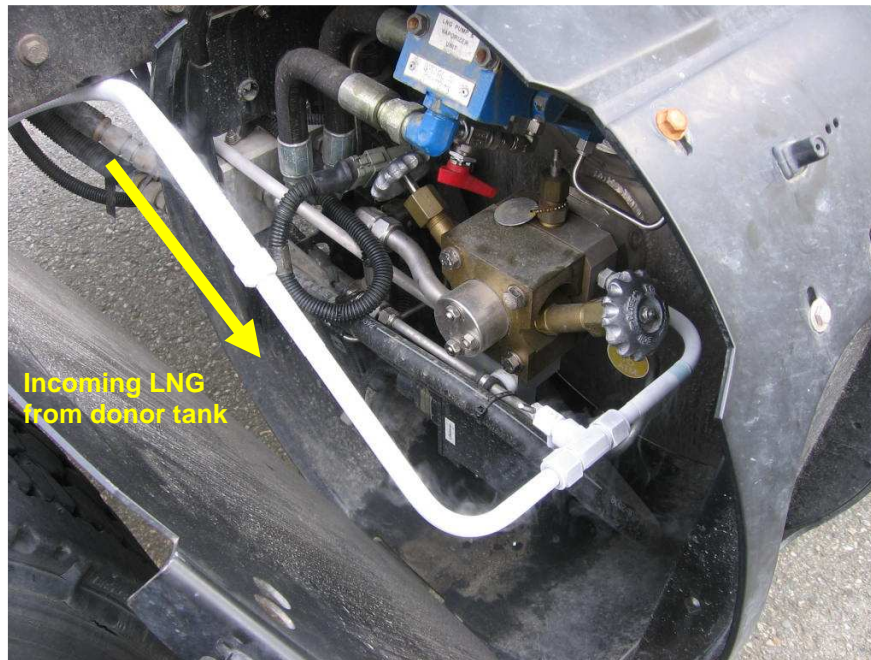

Figure 6. LNG transfer in process, note heavy frosting.
18. Open both tanks' liquid drain valves fully and allow LNG to transfer, see Figure 6.